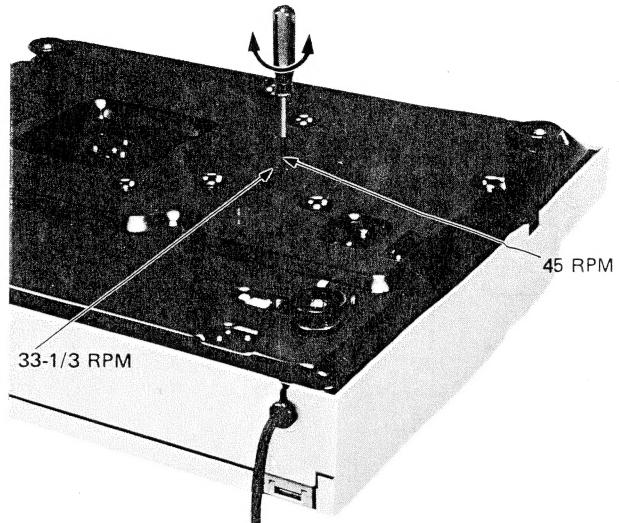

Fig. 21
(4) When the measurement value is out of the specified frequency range, adjust the adjustment holes (A and B) on the bottom board in the following procedure. (Fig. 21)